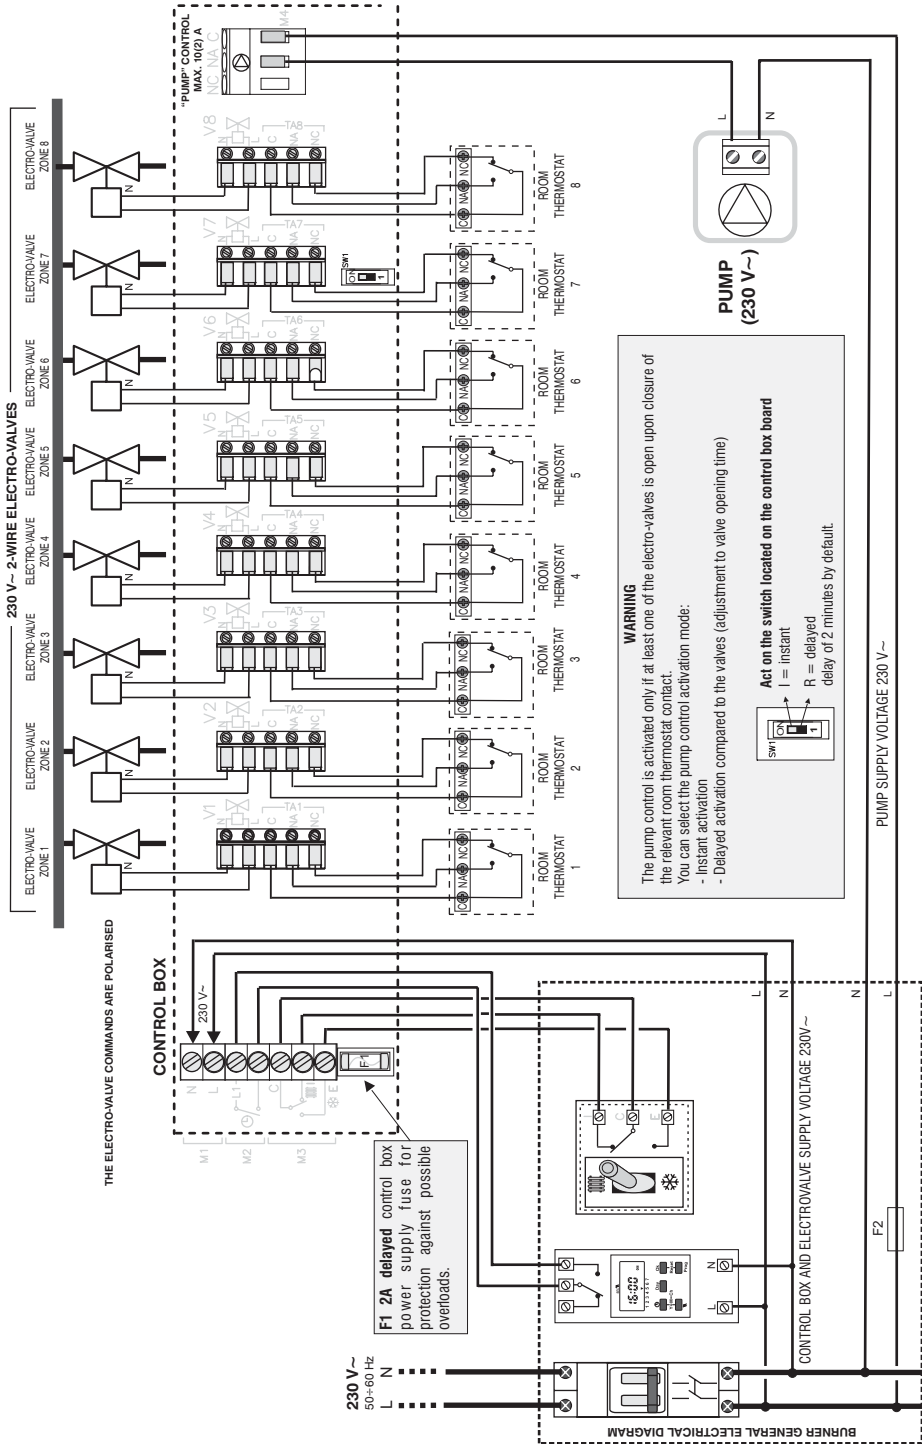

Fig. 9
- Carry out the electrical connections as indicated in the following electrical diagram (fig. 8) according to the model: 4, 6 or 8 zones (see also the example of installation diagram in the following page - fig. 9).